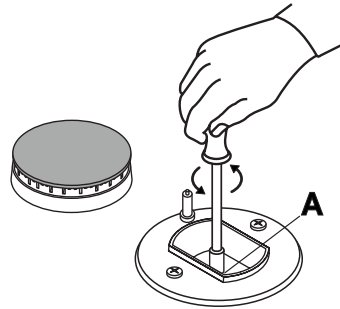

fig.6
- Unscrew the nozzles "A" (fig.6) using a 7 mm socket wrench and replace them with the ones which have a diameter suitable for the type of gas to be used, according to the table 1 "burners and nozzles specifications).